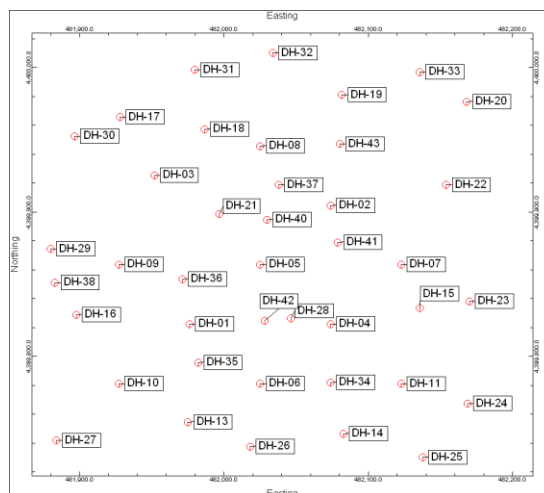

Figure 56
- Click on the *Continue* button and the map will no longer have labels that obscure adjacent labels or labels that extend outside the perimeter (Figure 56).